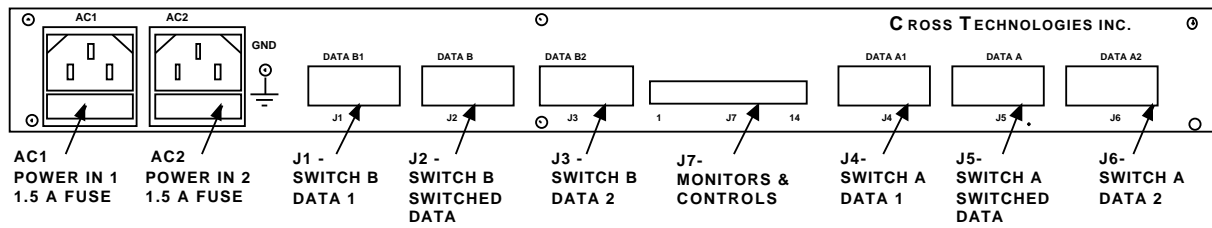

FIGURE 2.0 1582-42L REAR PANEL
J7 - MONITORS AND CONTROLS CONNECTOR (FIGURE 2.0)
- d. Connect to signals on the MONITORS AND CONTROLS connector, J7, as desired (see Figure 2.0, Table 2.0)